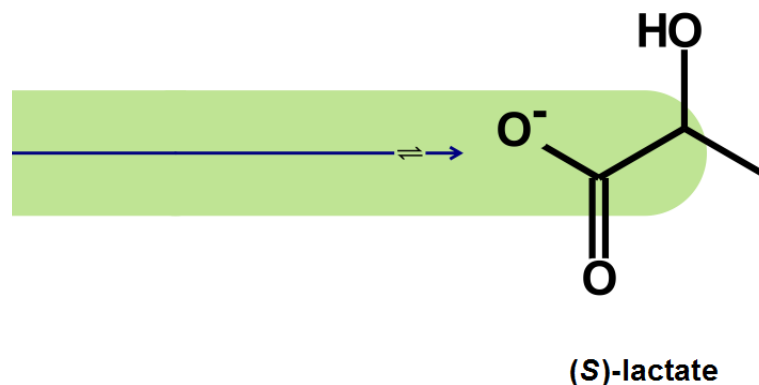

Figure 135 Resized chemical structure
- Click the **Network View Mode**  button from the toolbar to disable editing mode (Figure 135).